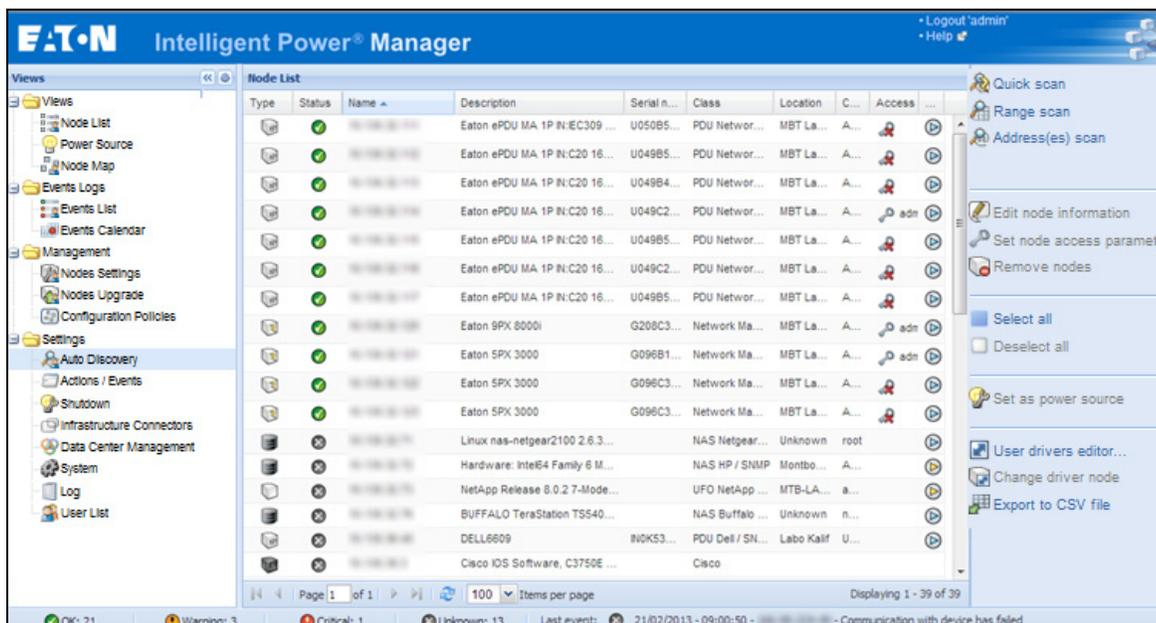

Figure 115. User Drivers Editor Selection
2. Select the  User drivers editor... button from the right panel (see Figure 115). The User drivers editor page displays.